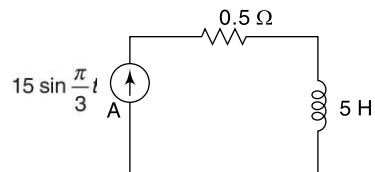

Fig. 14.19
14.30 In the circuit shown in Fig. 14.19, find the instantaneous value of voltage drop across the resistor and the inductance. What is the amount of power dissipated in the resistor. What is the energy dissipated?